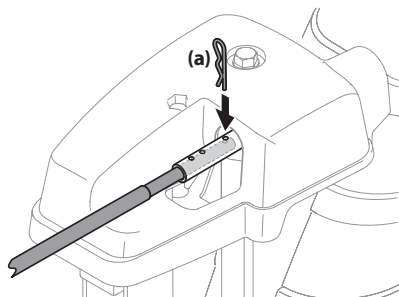

Figure 3-11
1. Remove cotter pin (a) from either of the holes furthest from the chute assembly on chute rotation assembly. See Figure 3-11.
2. Push in chute control rod until the hole in it lines up with the third hole in chute rotation assembly. See Figure 3-11.
3. Reinsert cotter pin (a) through this hole and chute control rod as shown in Figure 3-11.